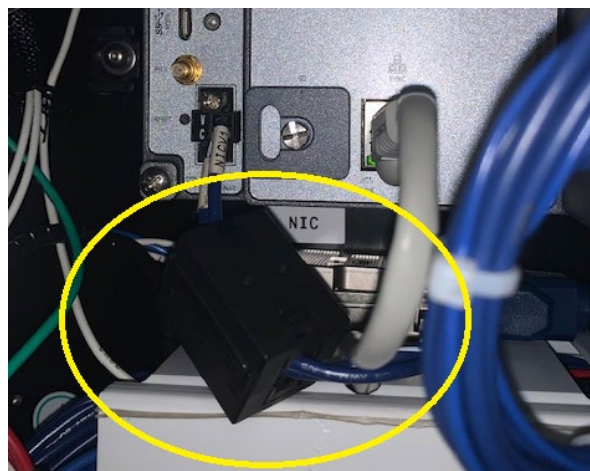

Figure 6
18. Attach the ferrite core roughly 2" below the input power connector by placing the two wires into the center of the ferrite core and closing the ferrite assembly. (**See Figure 6**)